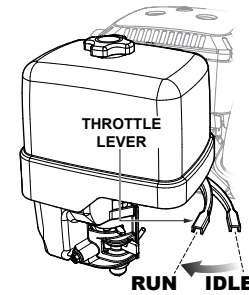

Figure 14. Throttle Lever
- Move the throttle lever (Figure 14) away from the **SLOW** position, about 1/3 of the way toward the **FAST** position.